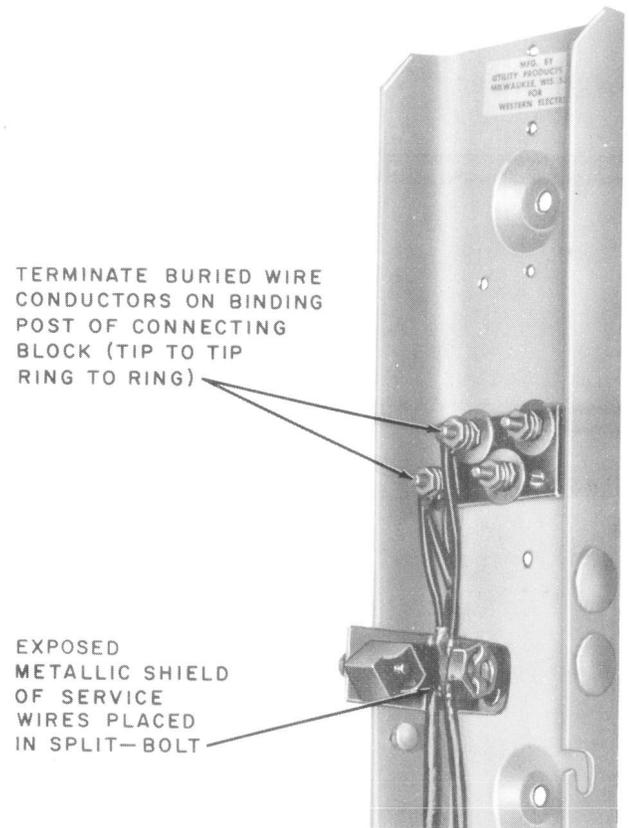

Fig. 6—Terminated Buried Wire
5.03 Install the buried wire in the split-bolt connector with the exposed metallic shield portion contacting the split-bolt as shown in Fig. 6. Tighten nut securely, then terminate the conductor on the binding post of the connecting block as shown in Fig. 6. The tip conductors are all terminated on the tip binding post and all the ring conductors are terminated on the ring binding post.